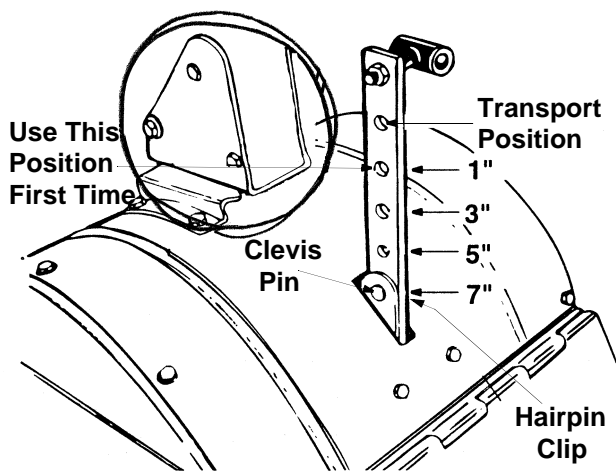
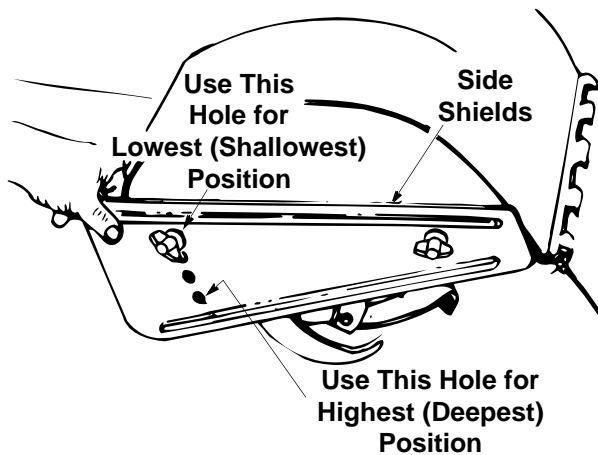

Figure 9
Figure 10
WARNING: When operating the tiller for the first time, use the depth stake setting that gives 1 inch of tilling depth (second hole from the top). See Figure 9.
Tilling depth is controlled by the depth stake which can be adjusted to five different settings. See Figure 9. Adjust the side shields as shown in Figure 10, as you adjust the depth stake. Be certain spark plug wire is disconnected and grounded against the engine.
1. When using the tiller for the first time, use the second adjustment hole from the top (1" of tilling depth). See Figure 9.
5. To adjust the depth stake, remove the clevis pin and hairpin clip. See Figure 9. Move the depth stake to the desired setting.
6. To adjust the side shields, remove the wing nuts. See Figure 10. Place side shield in position desired. Replace wing nuts and tighten securely.